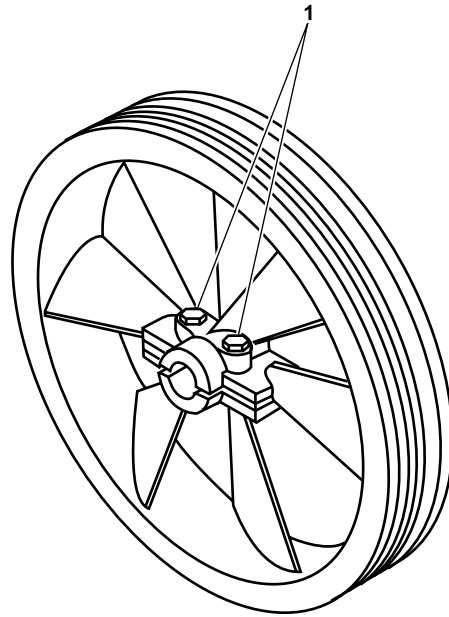

Figure 3. Pulley Clamp Screws
2. Use a torque wrench to tighten both pulley clamp screws (figure 3, item 1) to a torque of 90 lb-ft (122 Nm).